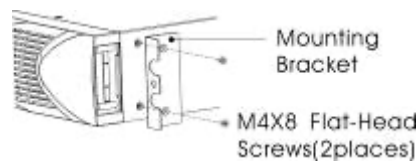

Figure 3 Installing the Mounting Brackets
- i) Align the mounting brackets with the screw holes on each side of the UPS and fix with the supplied M4×8 flat-head screws(see Figure 3)